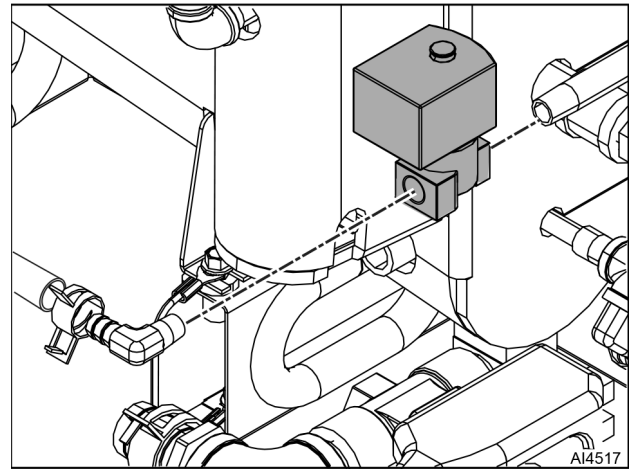

Fig. 53
5. Remove hose clamp (Fig. 53) and hose from vacuum relief valve elbow.